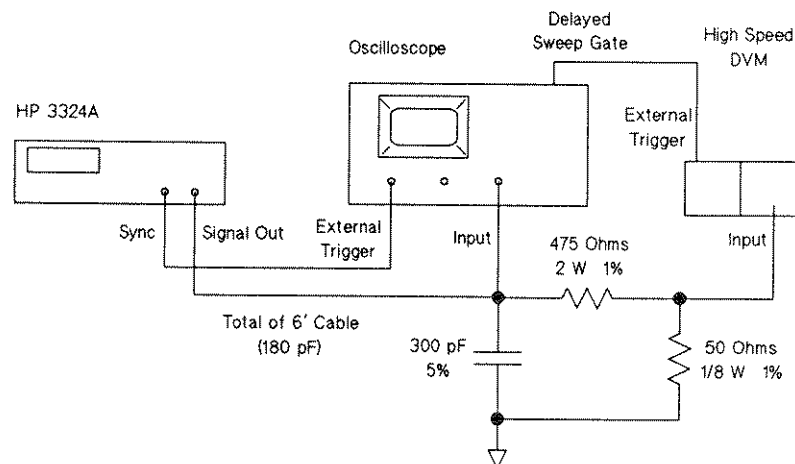

Figure 12-6. Function Amplitude Accuracy Test Set-Up (High-Voltage Output)
4. **High-Voltage Function Test.** Connect the equipment as shown in Figure 12-6.
5. The voltage divider shown in Figure 12-6 is built into a small metal box with 2 BNC connectors. Parts used are:
Connect the tap to the input of the high-speed voltmeter, as shown in Figure 12-6.
1. Connect the HP 3324A output to an oscilloscope with a 500 $\Omega$ , 300pF load (load attached at either end). The cable capacitance (30 pF/foot) must be included in the 300 pF. The HV divider (Figure 12-6) may be used with 6 feet of cable.